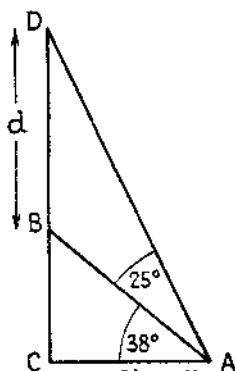

Fig. 24
- (5) Calculate the distance
- in fig. 24.
(5) Calculate the length of  $AB$  in fig. 24.